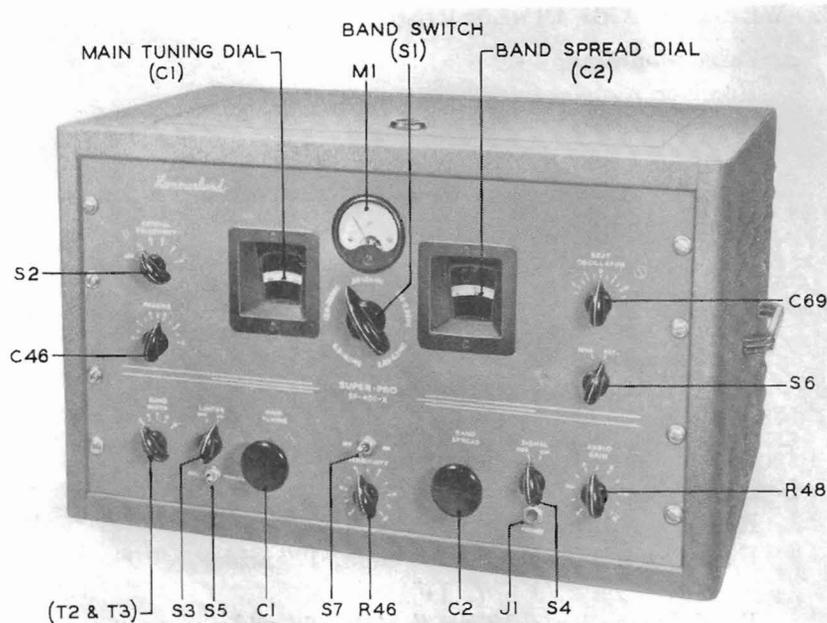
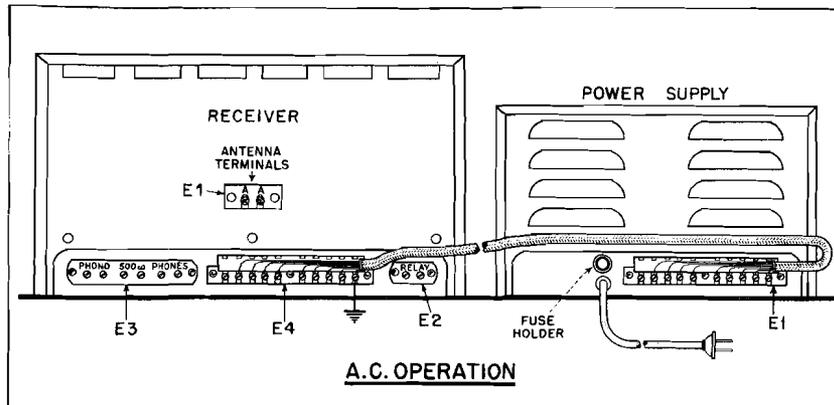

FIG. 2—Lay-out of controls referred to in text.
FIG. 3—Connections for power cable -A.C. operation.
panel (FIG. 2). Select the desired band by turning the BAND SWITCH knob right or left to the band indicated.
a. *Rating*—The total power output is approximately 8 watts. The total harmonic distortion of the output stage is less than 10% at this output and is, of course, less at lower levels. The Receiver has two output circuits with marked terminals along the rear of the chassis (FIG. 3).
(1) Remove the sheet-metal covers from terminal strip (E4, FIG. 3) on rear of Receiver and from terminal strip (E1, FIG. 3) on Power Supply. See that all ten screws on each strip are unscrewed at least three turns. Then attach one end of the connector cable to each terminal strip *exactly* as shown in FIG. 3 and tighten all screws securely. Make certain that each slotted spade lug on the cable strips makes contact with its respective screw terminal *only*, since a lug jammed between *two* screws could cause considerable trouble. Immediately
Connect a single-wire lead-in to the end of the antenna nearest the Receiver and try to have the lead-in wire leave the antenna approximately at right angles. Connect the lead-in to one of the "A" terminals (on terminal strip E1, FIG. 3) at the rear of the Receiver. Connect the other "A" terminal to a good ground, preferably not to the Receiver chassis. Run this ground lead to a water pipe or to a metal rod driven into the ground deep enough to reach moist earth. Keep the length of the ground lead as short as possible. Make the best possible electrical connections between the antenna and its lead-in and between the ground lead and "ground."
d. *Chassis Ground*: It is not usually necessary to ground the Receiver chassis, but this can be done by connecting the ground lead to the left-hand PHONO or to the left-hand PHONES terminal (located on terminal strip E3, FIG. 3). These two terminals are grounded to the inside of the chassis.
e. *Earphones*: Plug a headset into the PHONES jack (J1, FIG. 2). or connect it to screw terminals marked PHONES on rear of chassis. No matching transformer is necessary (see PAR. 20b).
f. *Loudspeaker*: The permanent magnet dynamic loudspeaker supplied with the Receiver has a transformer mounted on its housing. This transformer matches the voice coil of the loudspeaker to the 500-ohm output terminals (on terminal strip E3, FIG. 3) located at the rear of the chassis (marked 500 ohms). For loudspeaker operation.
h. *Line Switch:* Turn the OFF-ON switch (S7, Fig. 2) on the Receiver front panel to OFF and plug the power cord of the Power Supply into the a-c powerline.
a. *Radiophone Reception:* Set the front panel controls (FIG. 2) as follows:
(1) Throw OFF-ON power switch in center of panel to ON. This puts Receiver in operation.
(2) Adjust band switch (S1, FIG. 2) to a band which is likely to be very active. This will facilitate the process of getting familiar with the various adjustments. If interference is not serious, BAND WIDTH control can be adjusted to a wider band width (higher number), depending upon the degree of fidelity desired. In general, adjust this control to band width giving best tone with least interference.
(3) Do all tuning, with or without the meter with BAND WIDTH control set at 3. Other settings give wider bands, making exact tuning difficult. Make band width adjustments *after* signal is tuned properly.
(4) LIMITER-OFF-ON control turns noise limiter on and off. The noise limiter will be most valuable on the higher frequencies, where interference from automobile ignition system is most bothersome.
(1) On strong signals, do not turn SENSITIVITY control all the way on, because it will cause overloading. If the AUDIO GAIN control is set at about 7, it is possible to regulate volume by using only the sensitivity control.
(2) To turn on the beat oscillator, set SIGNAL-MOD-CW switch at CW. The BEAT OSCILLATOR control varies the pitch of the beat between oscillator and incoming signal. Use beat oscillator for code reception and for locating weak modulated signals.
(3) Fading signals can be improved by returning AVC-MANUAL switch to AVC.
d. *Receiver Silencing:* Receiver can be silenced by flipping the SEND-REC switch (S6, FIG. 2) to SEND. This operation opens the "B" supply to the R-F and 1st detector tubes (V1, V2 and V3). The Receiver then remains ready for instant service during transmission periods. Note also that instead of using the SEND-REC switch, a relay may be connected to the RELAY terminals (E2, FIG. 3) at rear of Receiver and silencing controlled by relay action, actuated, for example, by the associated transmitter. When using a relay for silencing, flip SEND-REC switch to SEND (open) and *leave* it there. While the
*e. Phono Operation:* Leads from a phonograph pickup may be connected to the PHONO terminals (on terminal strip E3, FIG. 3) at the rear of the Receiver. (Note that the left-hand terminal of this pair is grounded to chassis.) Use the SEND-REC switch (S6) as a "phono-radio" switch by flipping it to the SEND position, thus eliminating radio interference and making it unnecessary to hunt for a "dead spot" on the tuning dial.